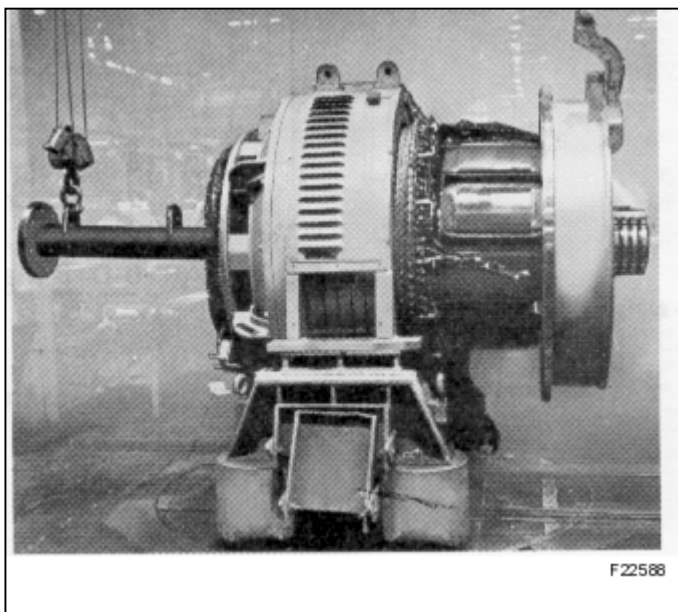

Figure 42 Installing Rotor in Stator
6. Support end housing with a crane cable and end housing holding fixture, Figure 42. Support end of arbor fixture with another crane cable. Carefully lift and guide rotor assembly into stator. Avoid damaging insulation. When end housing is flush against stator frame, install 3/4"-10 bolts, and lock washers, to hold end housing to stator frame. Torque bolts to 271 Nm (200 ft-lbs) using a minimum of three passes.